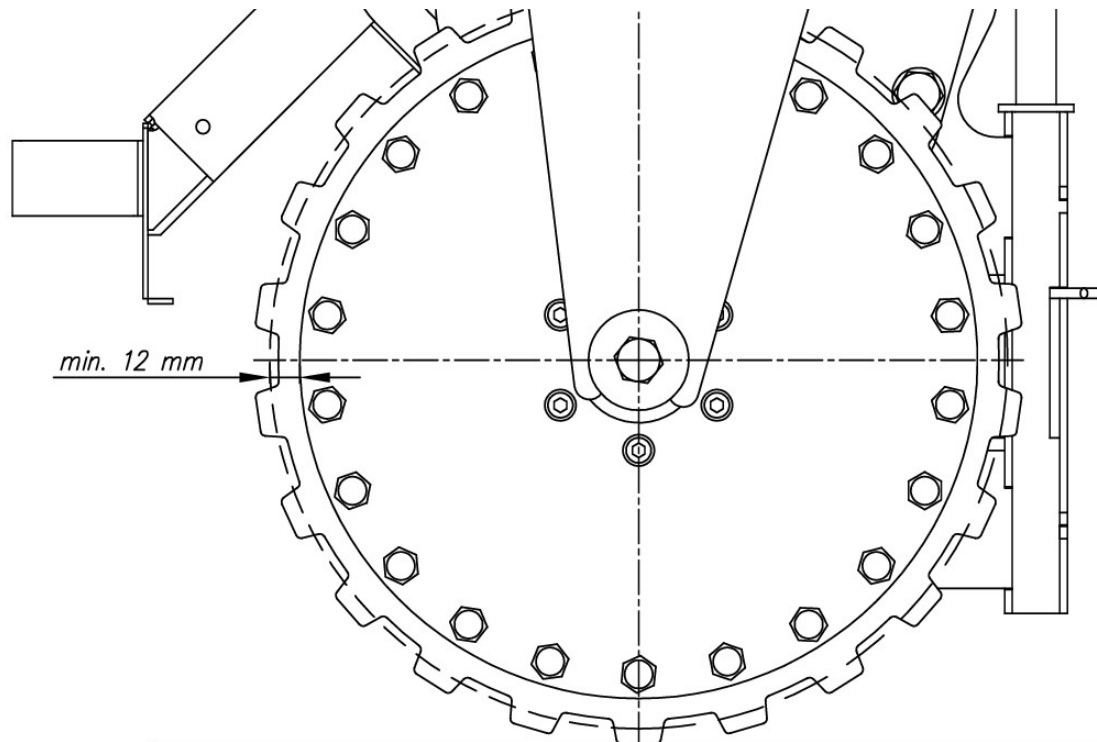

Figure 17. A method for measuring thickness of the rubber coating on the conveyor running wheel.
3. After each 20 hours of the conveyor operation, measure the thickness of the rubber coating on the conveyor running wheel Figure 17. The rubber coating must be replaced when the total coating thickness is below 12 mm (when measured from the external edge of the wheel disc).